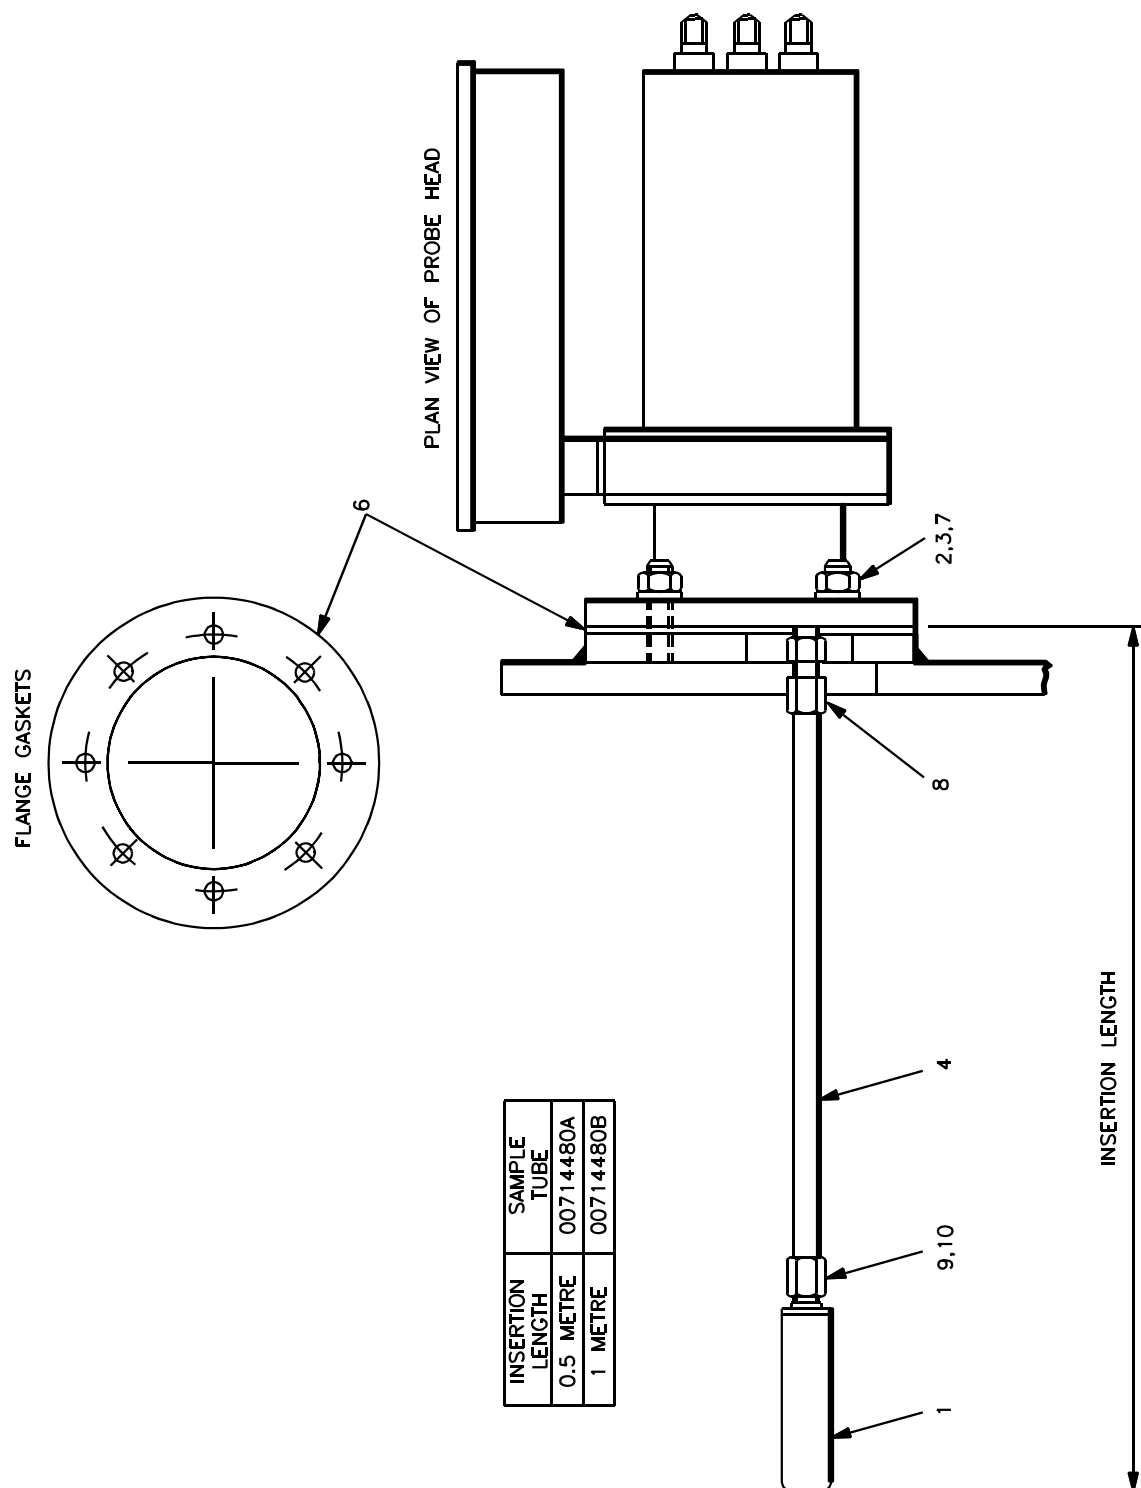

Figure 3.22 Installation of Unsupported Filter Probe
3.9.2 Unsupported Filter Probe See Figure 3.22